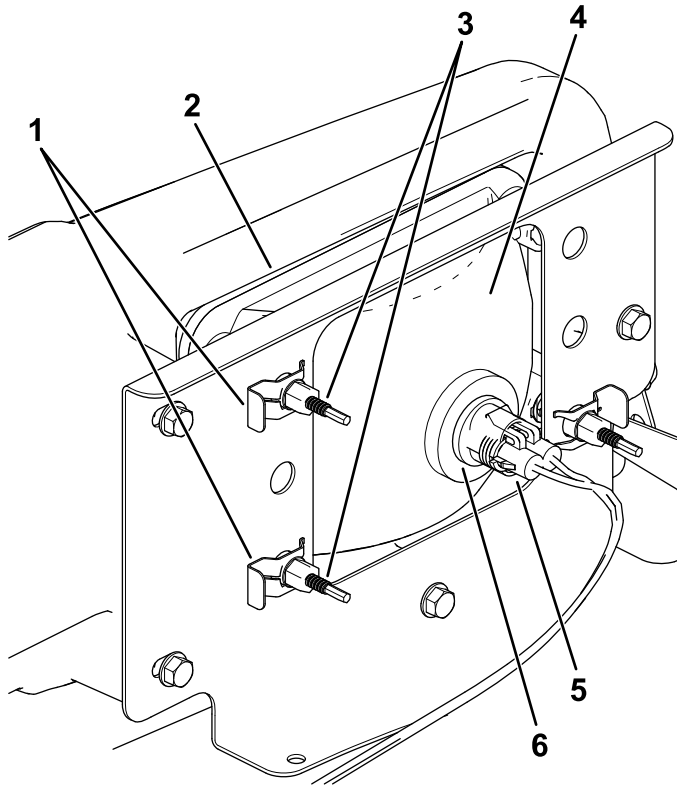

Figure 40
3. Disconnect the electrical connector for the harness from the connector of the lamp assembly (Figure 40).
4. Remove the speed clips that secure the headlight to the headlight bracket (Figure 40).
5. Remove the headlight assembly by moving it forward through the opening in the front bumper (Figure 40).
6. Install the new headlight through the opening in the bumper (Figure 40).
8. Connect the electrical connector for the harness to the connector of the lamp assembly (Figure 40).
5. At the back of the headlight assembly, rotate adjustment screws (Figure 40) to pivot the headlight assembly and align the position of the cast beam.